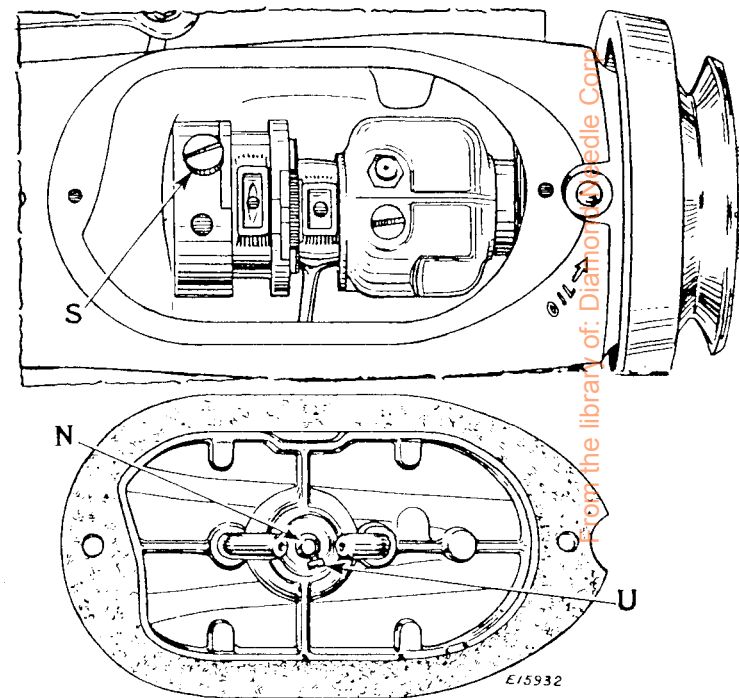

Fig. 23. Feed Eccentric
The machine is prevented from making longer stitches than a predetermined maximum by the stop screw (S, Fig. 23) in the feed eccentric.
The stitch regulator plunger (N, Fig. 23) can be removed to prevent unauthorized or accidental changing of the stitch length. Take out screw (U) which will allow the plunger to be withdrawn when the stitch length has been adjusted. The hole in the arm should then be filled by inserting a screw 140317X (not regular equipment).